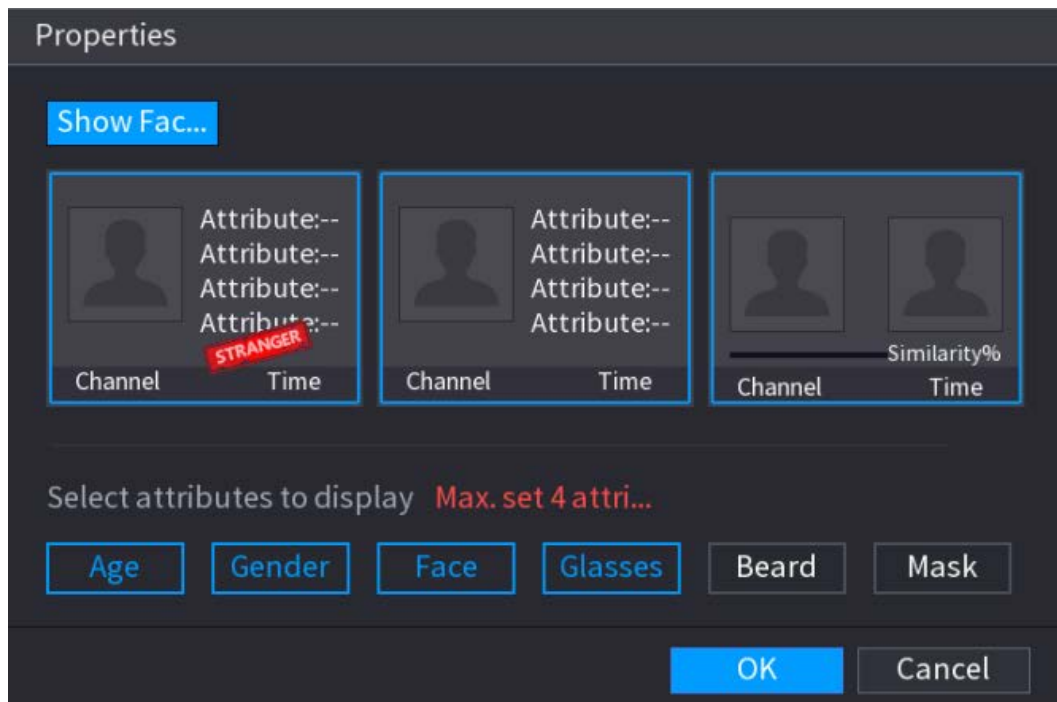

Figure 5-39
- : Click this icon and then select the face attributes that you want to display on the AI preview mode. Maximum four attributes are supported to display. See Figure 5-39.